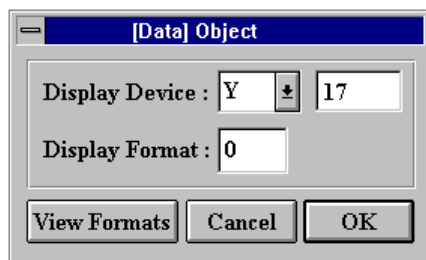

Fig. B-3
- 4) Click on the data object icon . Move the cursor to a desired position to create the data object, then click. The data object dialog box is popped up as shown in Fig. B-3.